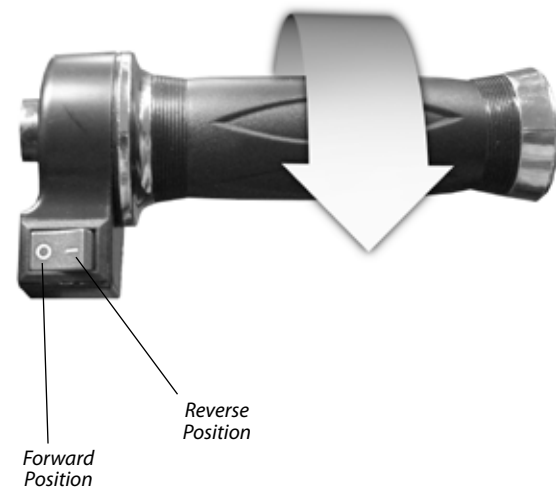

Figure 6
- a. To move forward, red directional control button near the right hand grip should be in the (O) position.
3. If necessary, to manually “push” the Amigo, press the freewheel lever down (see Figure 6). To resume power mode return lever to the center position. Before driving, make sure handle is locked in an upright position.